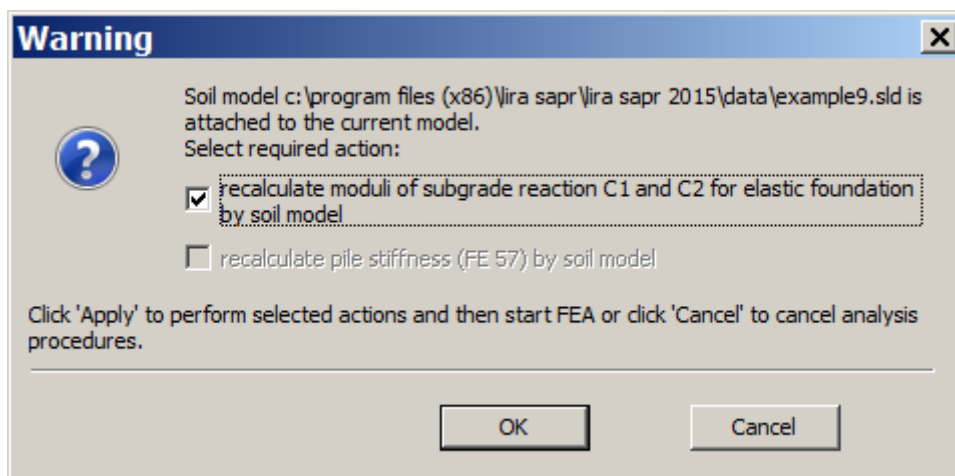

Figure 9.29. Warning box
- ⇒ In the **Warning** box (see Fig.9.29) that appears on the screen, make sure that **Recalculate moduli of subgrade reaction C1 and C2 for elastic foundation by soil model** check box is selected and click **OK**.
- ⇒ In the **Warning** box (see Fig.9.29) that appears on the screen, make sure that **Recalculate moduli of subgrade reaction C1 and C2 for elastic foundation by soil model** is selected and click **OK**.